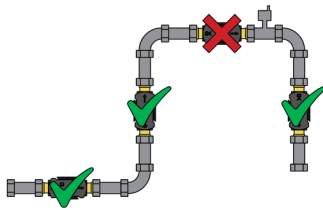

Fig.1
1. Do not place the flow sensor at the highest point of the pipe (Fig.1);